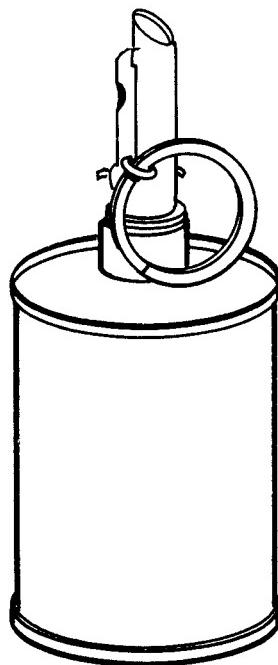

Figure D-6. RG-42 hand grenade.
- Type: Fragmentation. (Figure D-6)